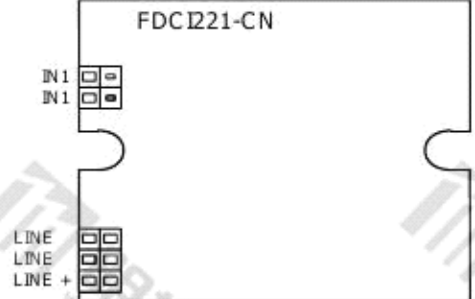

Fig. 10
1. Connect the cables to the terminals as shown in the connection diagram (Fig. 10). Refer to the following figures for connection details: